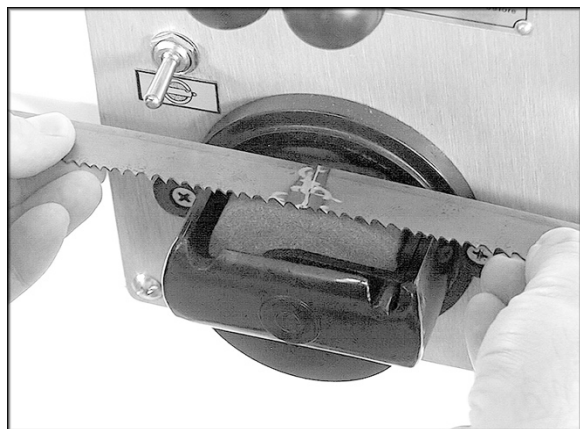

Figure 19
9. Remove the blade from the clamps, and carefully inspect it. The spacing of the teeth should be uniform, and the weld should be located in the center of the gullet. Misalignment is easily noted at this time from the weld appearance. See Figure 19 for examples of incorrect welds.